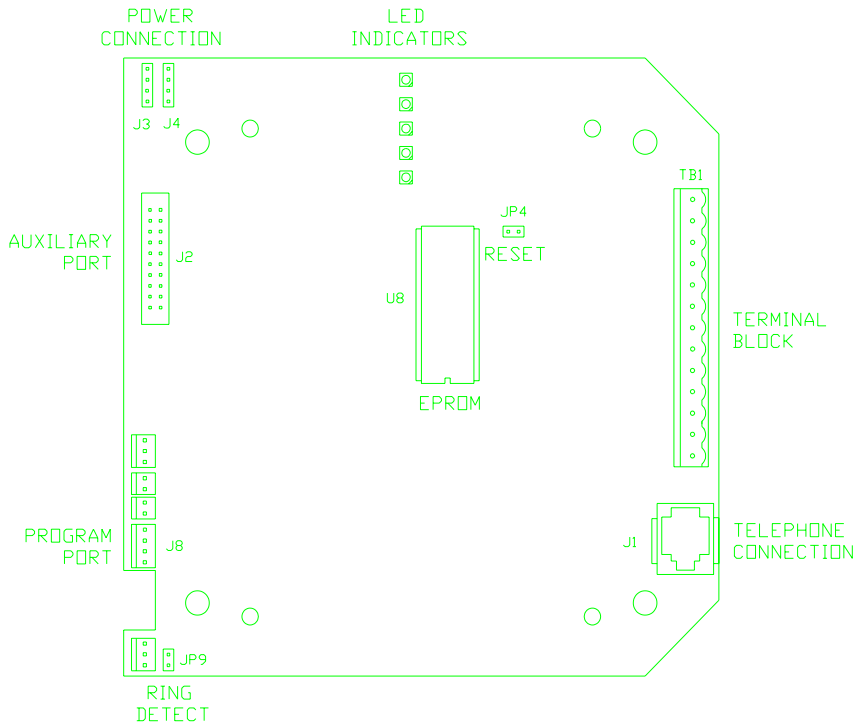

Figure 5-1. IMU-II/S Board
1. Unplug the telephone cable from J1 on the IMU-II/S board. For the exact location of J1, refer to Figure 5-1.